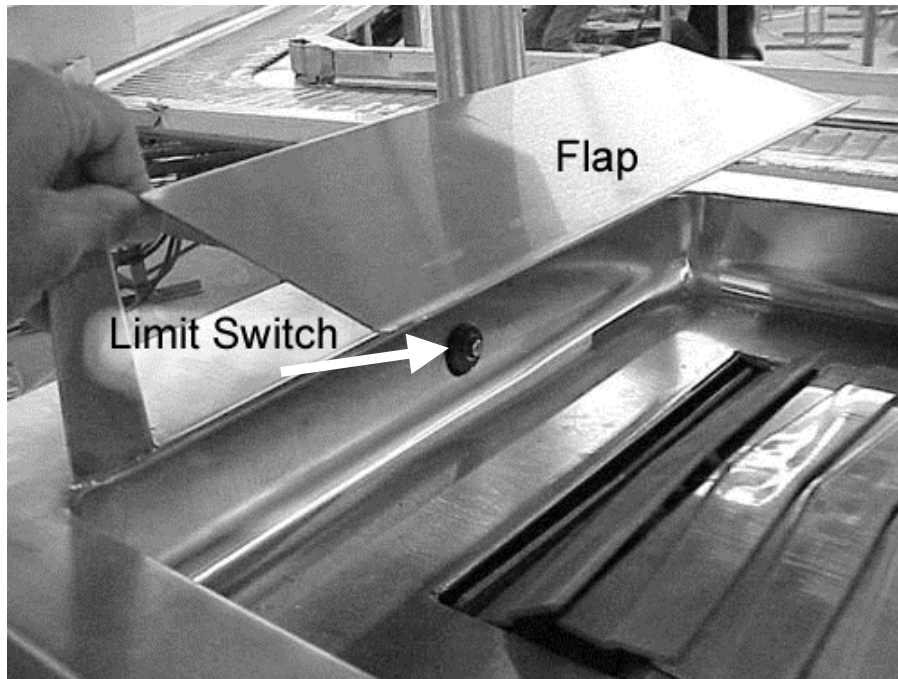

Figure 4.0
6. The conveyor stops automatically when a stack of dishes reaches the end and actuates the limit switch by pushing the flap. The conveyor runs again once dishes are cleared. The slat belt plate conveyor comes with a limit switch for accumulation purposes as shown in the figure 4.0